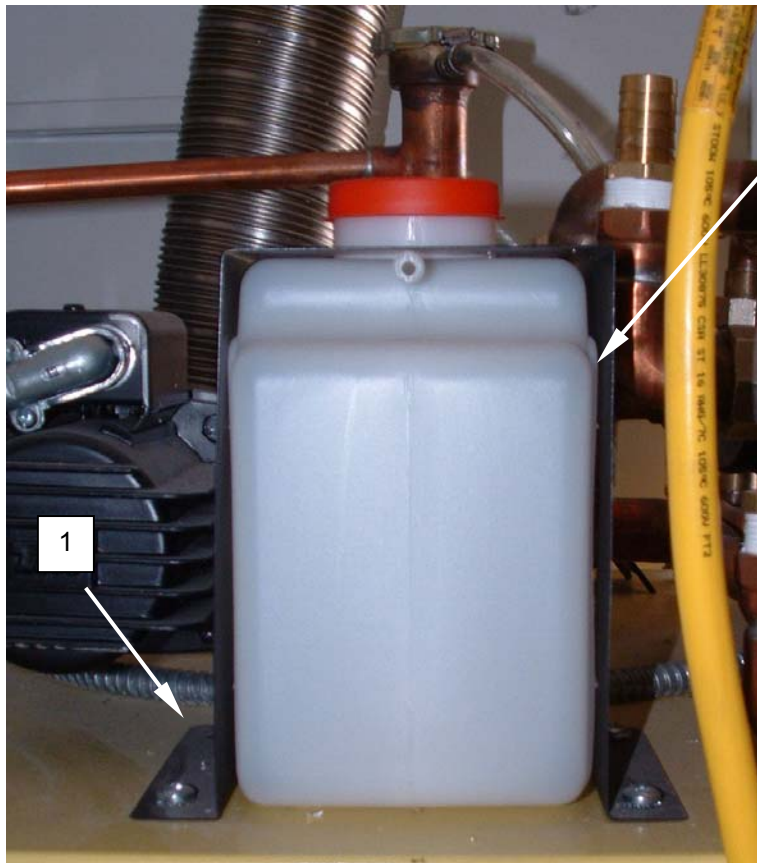

Figure 1. Replace the Coolant Reservoir.
7. Retain the coolant reservoir mount (**Figure 1, Item 1**) with screws.